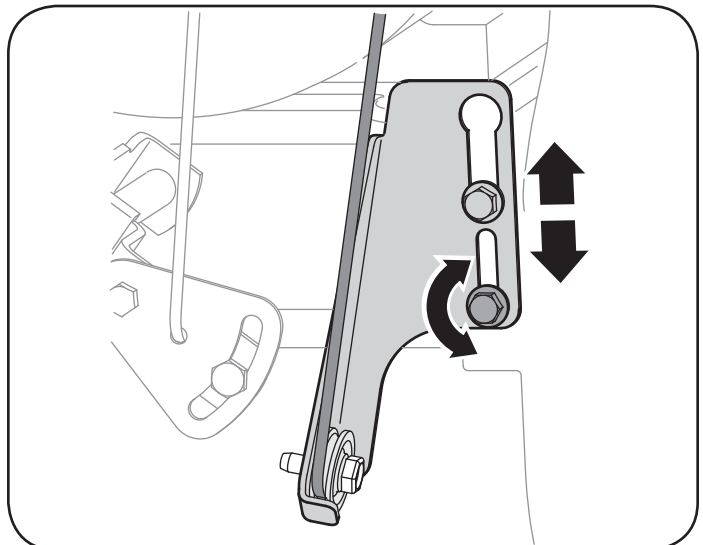

Figure 18
5. Loosen the lower hex bolt on the drive cable bracket. See Figure 18.